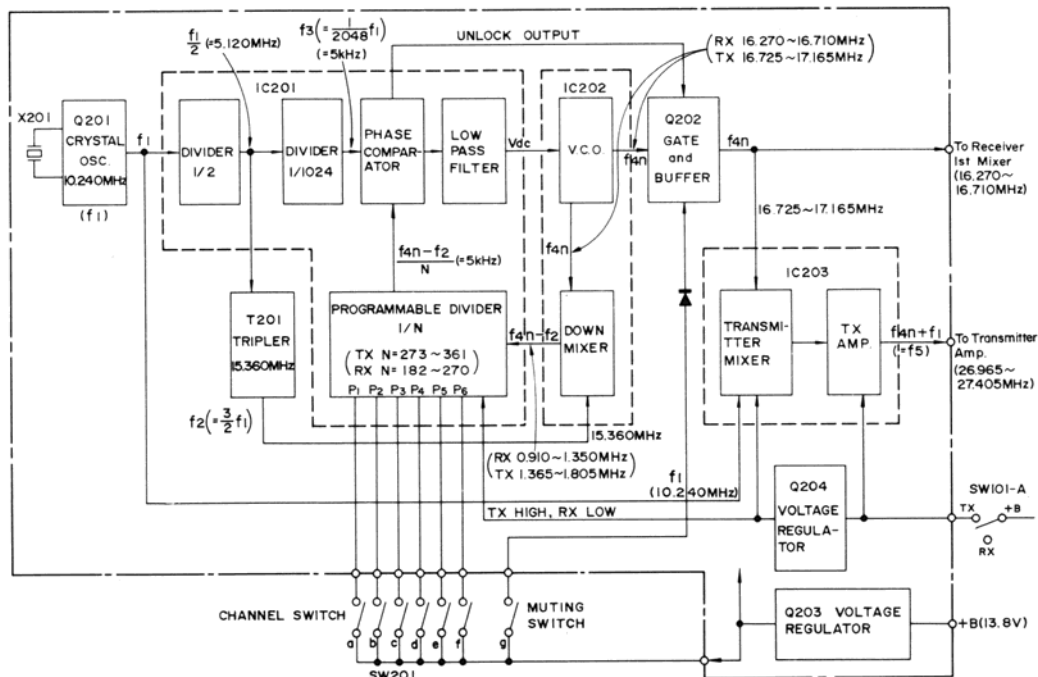

Figure 3 P.L.L. CIRCUIT FREQUENCY SYNTHESIZER
DESCRIPTION OF PHASE-LOCKED-LOOP (P.L.L.) CIRCUIT (Refer to Figure 3)
The frequencies for both transmitter and receiver are synthesized by one crystal controlled oscillator and the Phase-Locked-Loop (or P.L.L.) consisting of eight basic building blocks: the divider (1/2) IC201, the divider (1/1024) IC201, the phase detector (phase comparator) IC201, the low-pass filter IC201, the voltage controlled oscillator (or V.C.O.) IC202, the down mixer IC202, the programmable divider IC201 and the tripler T201 as shown in Figure 3.
3) Frequency Determining (Refer to Figure 3 and Table 1)